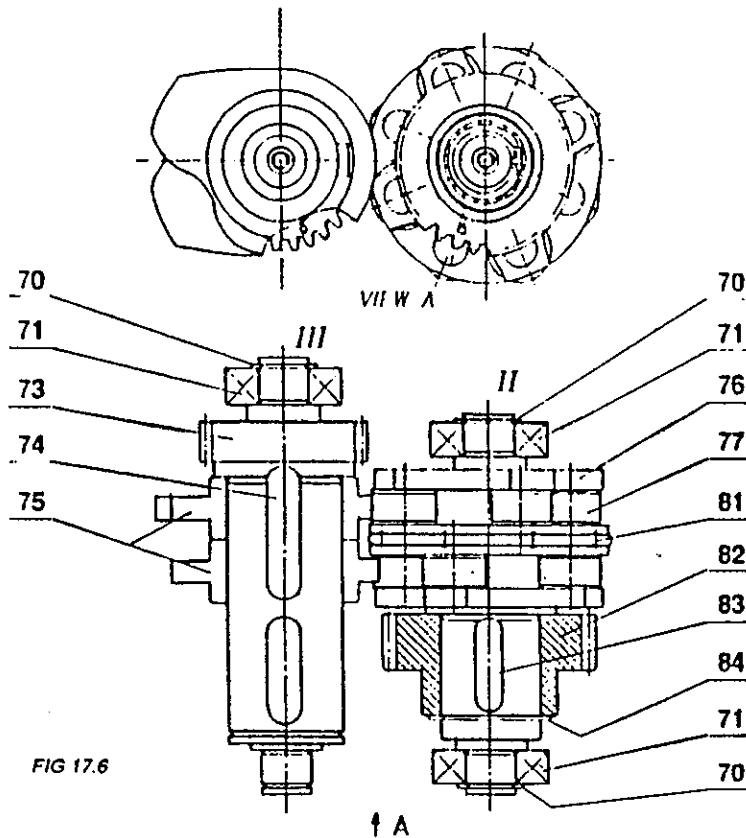

FIG 17.6
17.21 Assembly of Follower Shaft (Axis II): fig. 17.6.
17.22 Partial Assembly of Cam Shaft (Axis III):fig. 17.6.
Hold indexing drive subassemblies side by side in proper orientation as shown in Fig. 17.6. Circular parts of cam (75) should contact the rollers (78). Orientation marks on gears (73) and (83) should be positioned as shown in figure 17.6.